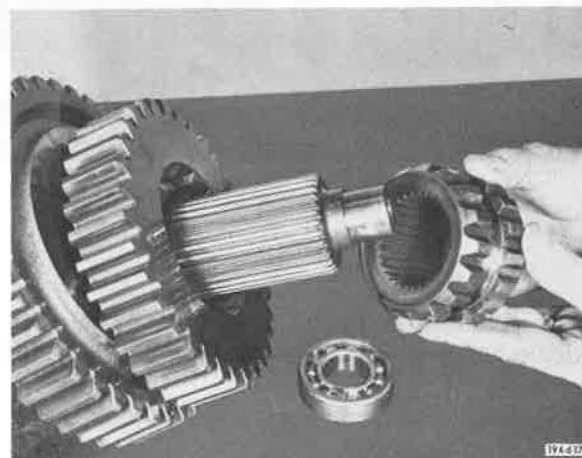

Figure 5-743. Removing Clutch
2. Remove fourth/fifth speed sliding clutch. See **Figure 5-743**.